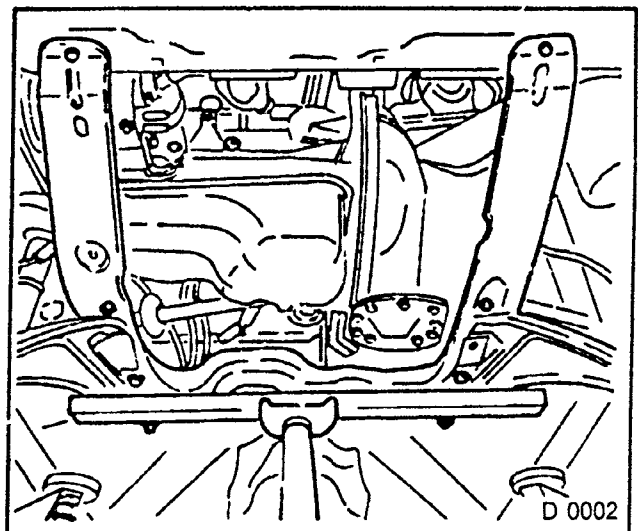

Fig. 69
5. Lower front axle body and remove. (Fig. 69 shows front axle body with long outrigger)